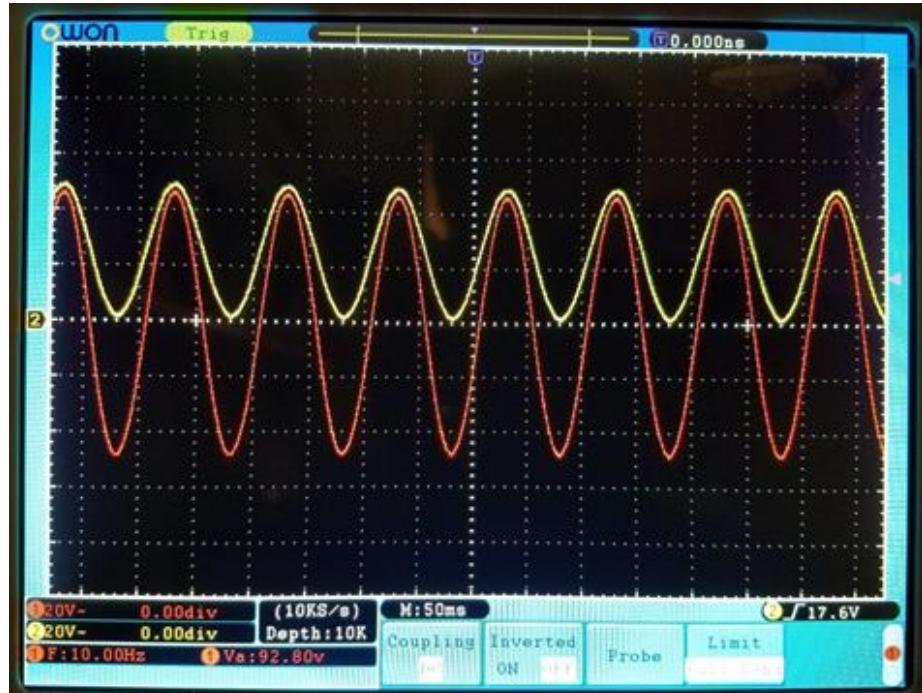

Figure 4.4: Oscilloscope signal for the capacitor voltage and output signal from the voltage divider.
When the circuit is built and functioning, the signals on the oscilloscope should appear as in Figure 4.4. The red trace is the voltage at the signal
2. Turn on the signal generator, and set the frequency to 1 Hz. Adjust the DC voltage on the power supply, and make sure your oscilloscope displays an image similar to Figure 4.4. Note that the oscilloscope channels will both need to be set to use a DC coupling, and you will want to adjust the output amplitude of the signal generator so that it puts out a maximum of five volts.